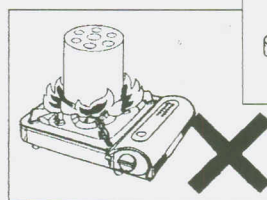

Fig.10
1. Do not use as a space heater. Under questionable conditions, do not use this unit in confined shelters. Use only for cooking purposes (not for starting charcoal briques, etc.). Misused can cause a fire. (Fig. 10)
5. Never use this unit to start wood fire (Fig.10)